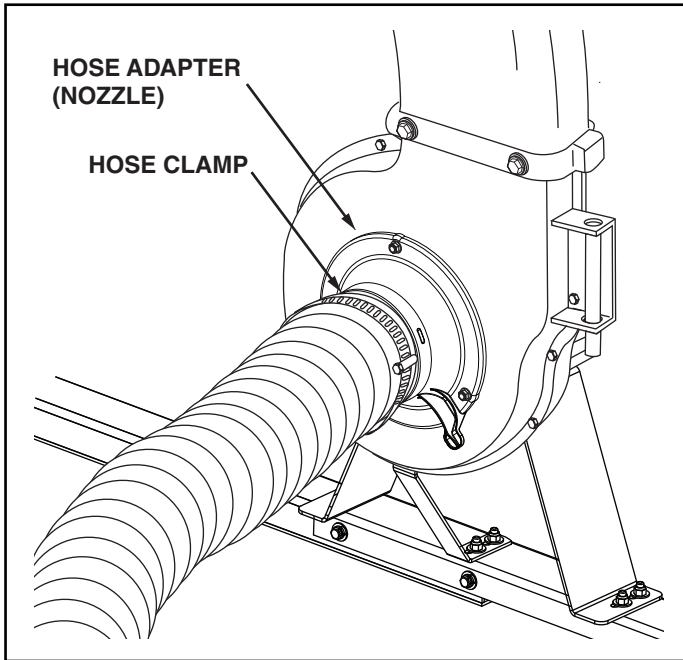

FIGURE 10
14. Place a hose clamp onto the end of the hose. Push the hose onto the hose adapter (nozzle). Tighten the hose clamp onto the hose and hose adapter. **Do not collapse hose adapter when tightening clamp.** See figure 10.